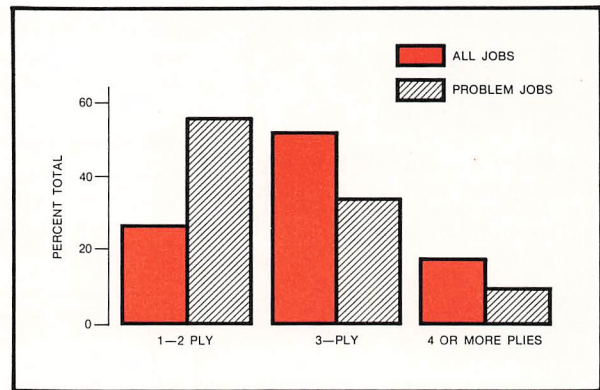

FIG. 6
C. Combined Data: It is in this area that PINPOINT is most valuable. It is desirable to know what kinds of roof are being built. It is equally desirable to know what kinds of roof are causing problems. But it is really significant to be able to compare the two. For example, if a given system accounts for 30% of the problem reports, it would immediately seem that the system is suspect. However, if an examination of the Baseline Data show that the identical system represents 45% of the projects being built, then it performing substantially better than the average, and the assessment of performance is substantially more valid. Figures 6 and 7 demonstrate this use of the data.
- Figure 6 - This figure demonstrates the performance of systems in terms of the number of membrane plies. The significant fact is that systems of fewer than 3 plies account for only 28% of the projects but roughly twice that percentage of the problems. The data is significant enough to cause concern about the service of roofs with less than 3 plies. This performance must be taken into account in any life-cycle costing.